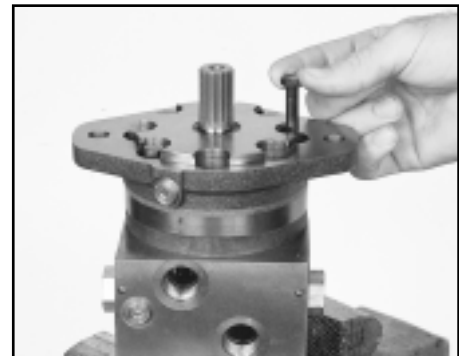

Figure D2
2. Remove the 8 5/16-24 bolts (1)SEE FIGURES D2.